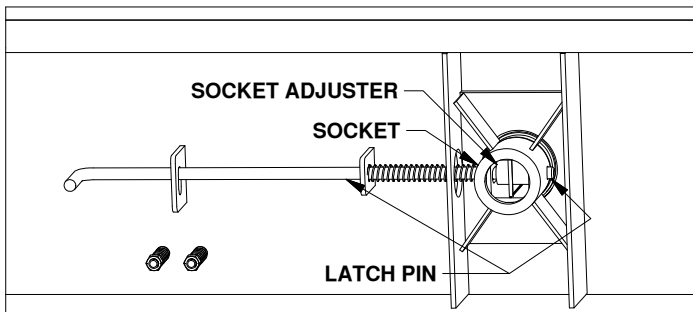

FIGURE C3: View under truck bed.
**WARNING:** Check the latch pin under the truck. Make sure that the latch pin has passed through both sides of the socket and that the pin is covered up inside the socket by the socket adjuster, see figure C3.